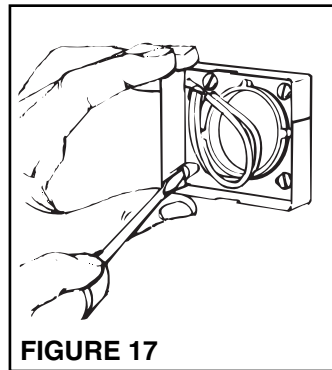

FIGURE 17
2. Refer to Figure 17. For some drywall or panel construction, the plaster frame will extend beyond the finished wall. In this case, remove plaster frame from mounting bracket by removing mounting screws.